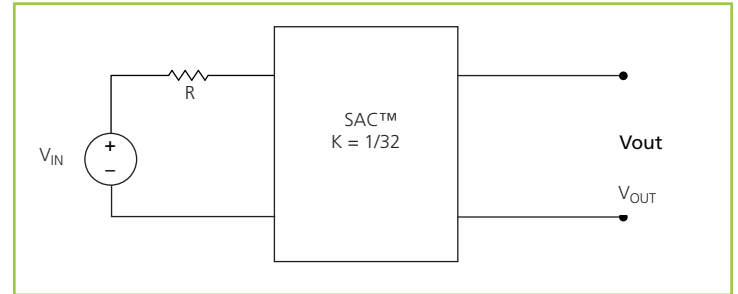

Figure 15 — $K = 1/32$ Sine Amplitude Converter™ with series input resistor
interesting attributes. Assuming that $R_{OUT} = 0 \Omega$ and $I_Q = 0 A$, Eq. (3) now becomes Eq. (1) and is essentially load independent, resistor R is now placed in series with V_{IN} as shown in Figure 15.
Assuming that $R = 1 \Omega$, the effective R as seen from the secondary side is $0.98 \text{ m}\Omega$, with $K = 1/32$ as shown in Figure 15.